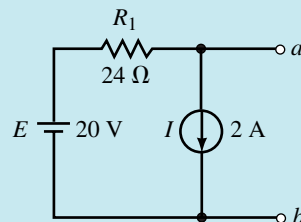

FIGURE 9-11
Steps 1 and 2: Removing the load resistor from the circuit and labelling the remaining terminals, we obtain the circuit shown in Figure 9-11.
Step 5: From Figure 9-11, the open-circuit voltage between terminals a and b is found as